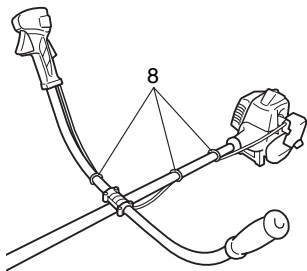

Fig. 5
Attach the protection tube to the drive shaft or handle using cord clamps (8). (Fig. 5)